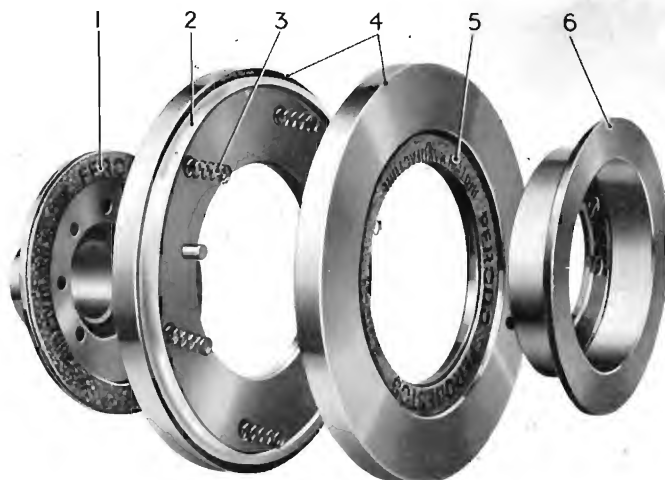
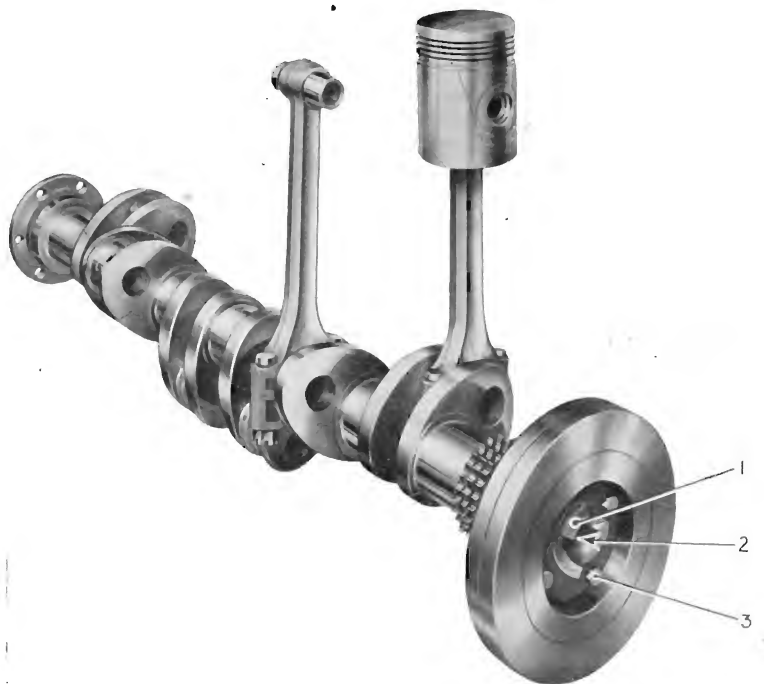

Fig. 21.
Fig. 23.
On certain models a friction type damper is fitted on the front end of the crankshaft as shown in Fig. 23. The damper consists of two loose plates (4), Fig. 21, and two rings of friction material (5) held together between two flanges (1) and (6); the necessary pressure is supplied by the coil springs (3). The unit is keyed on the crankshaft, is a press fit and is secured by a large setscrew at (2), Fig. 23, and locking washer.
To remove the damper take out the four setscrews (3), Fig. 23, securing the starting
dog (1) to the inner flange and remove the dog. Release the locking washer and remove the setscrew; the unit can then be drawn off using a suitable extractor K.9034. To dismantle the damper take out the two setscrews holding the flanges together. If there is any oil on the friction faces they should be thoroughly washed in petrol. Check that the rubber dirt excluding ring (2), Fig. 21, is in good condition. When replacing, press the damper on the shaft and lock with the setscrew and tab washer.
The pistons (shown in Fig. 23) are aluminium alloy and are provided with three